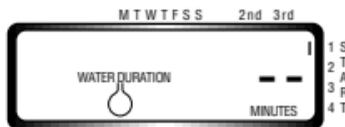

Figure 6
- Set the time you want to begin watering using the **+** or **-** key (remember **AM** and **PM**), then press **ENTER** to record. The display will show Water Duration and the —minutes blinking. [See Figure 6]